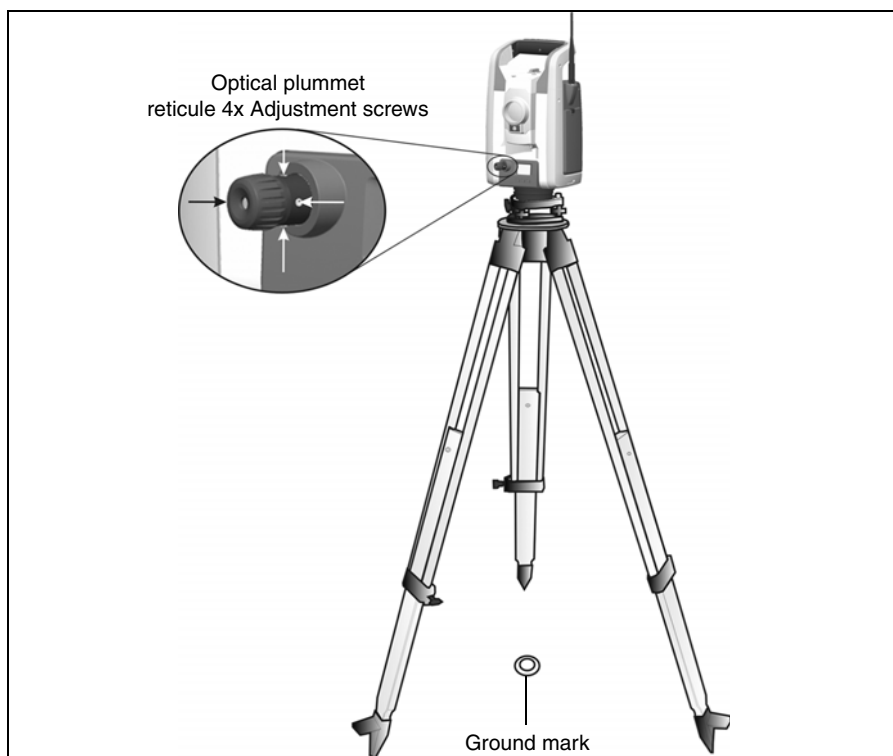

Figure 4.38 Optical plummet adjustment
1. Set up the instrument and level it over a ground mark so that the tripod height is 1.5 m (± 0.1 m) (4.920 ft. (± 0.328 ft.)). Figure 4.38